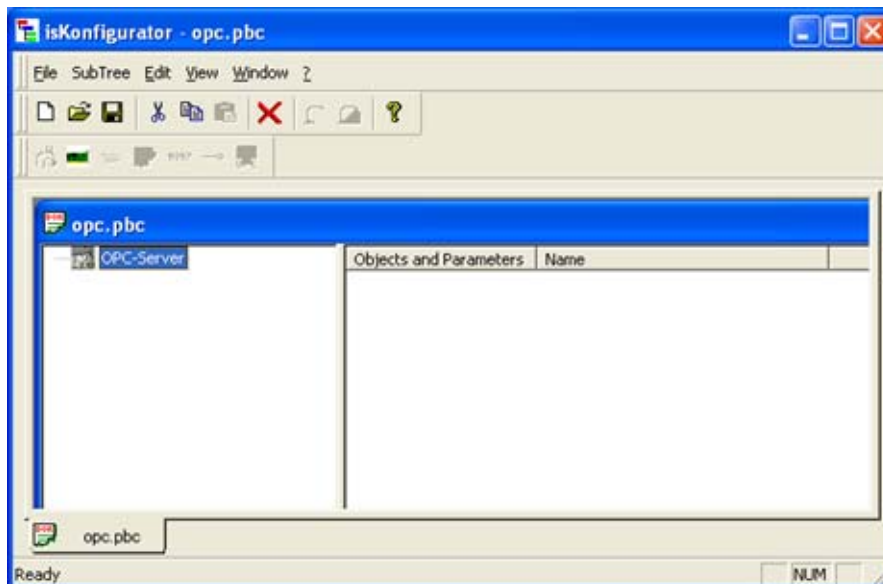

Figure 30. *is Pro Multiserver* Device
1. Select **Start > ifak system > is Pro Multiserver > is OPC Konfigurator**. A screen similar to the one shown in Figure 30 is displayed.